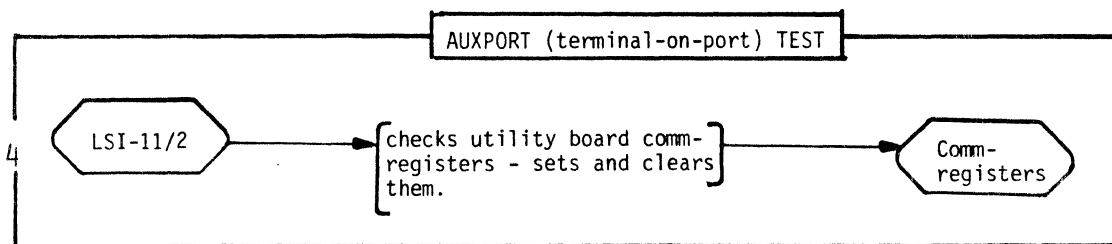

Fig. 4-13. Terminal on-port test.
4. TEST REGISTER (Fig. 4-13). This routine checks the status of the communications register bits.